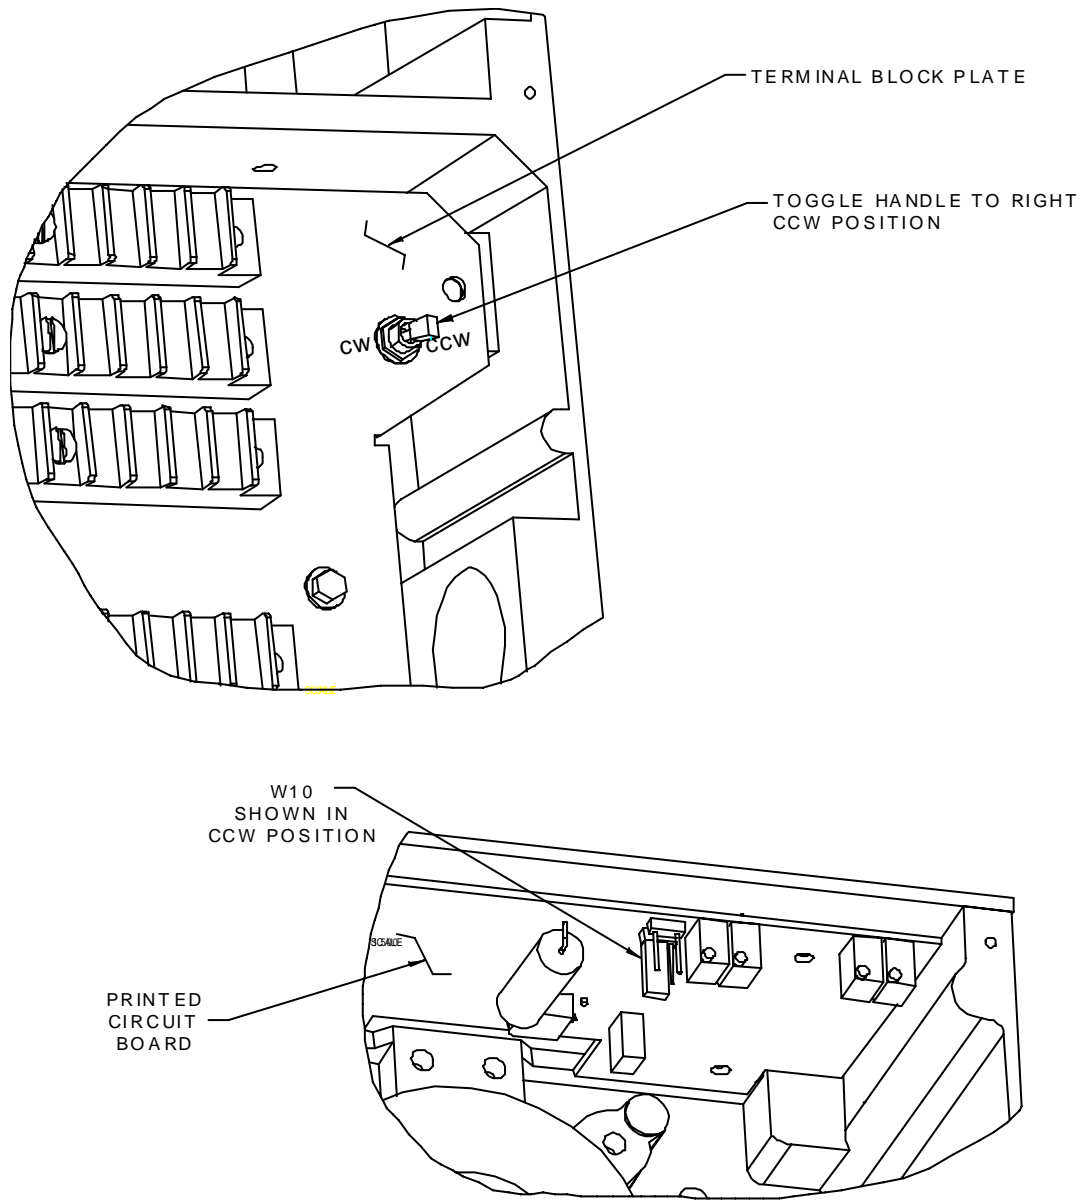

Figure 4-8 Switch Jumper for Reversal
1. Remove power from the actuator, and change the jumper on W10 (see Figure 4-8) from the pin 1 to 2 position to the 2 to 3 position. Also place the toggle switch on the terminal block plate to the CW side.